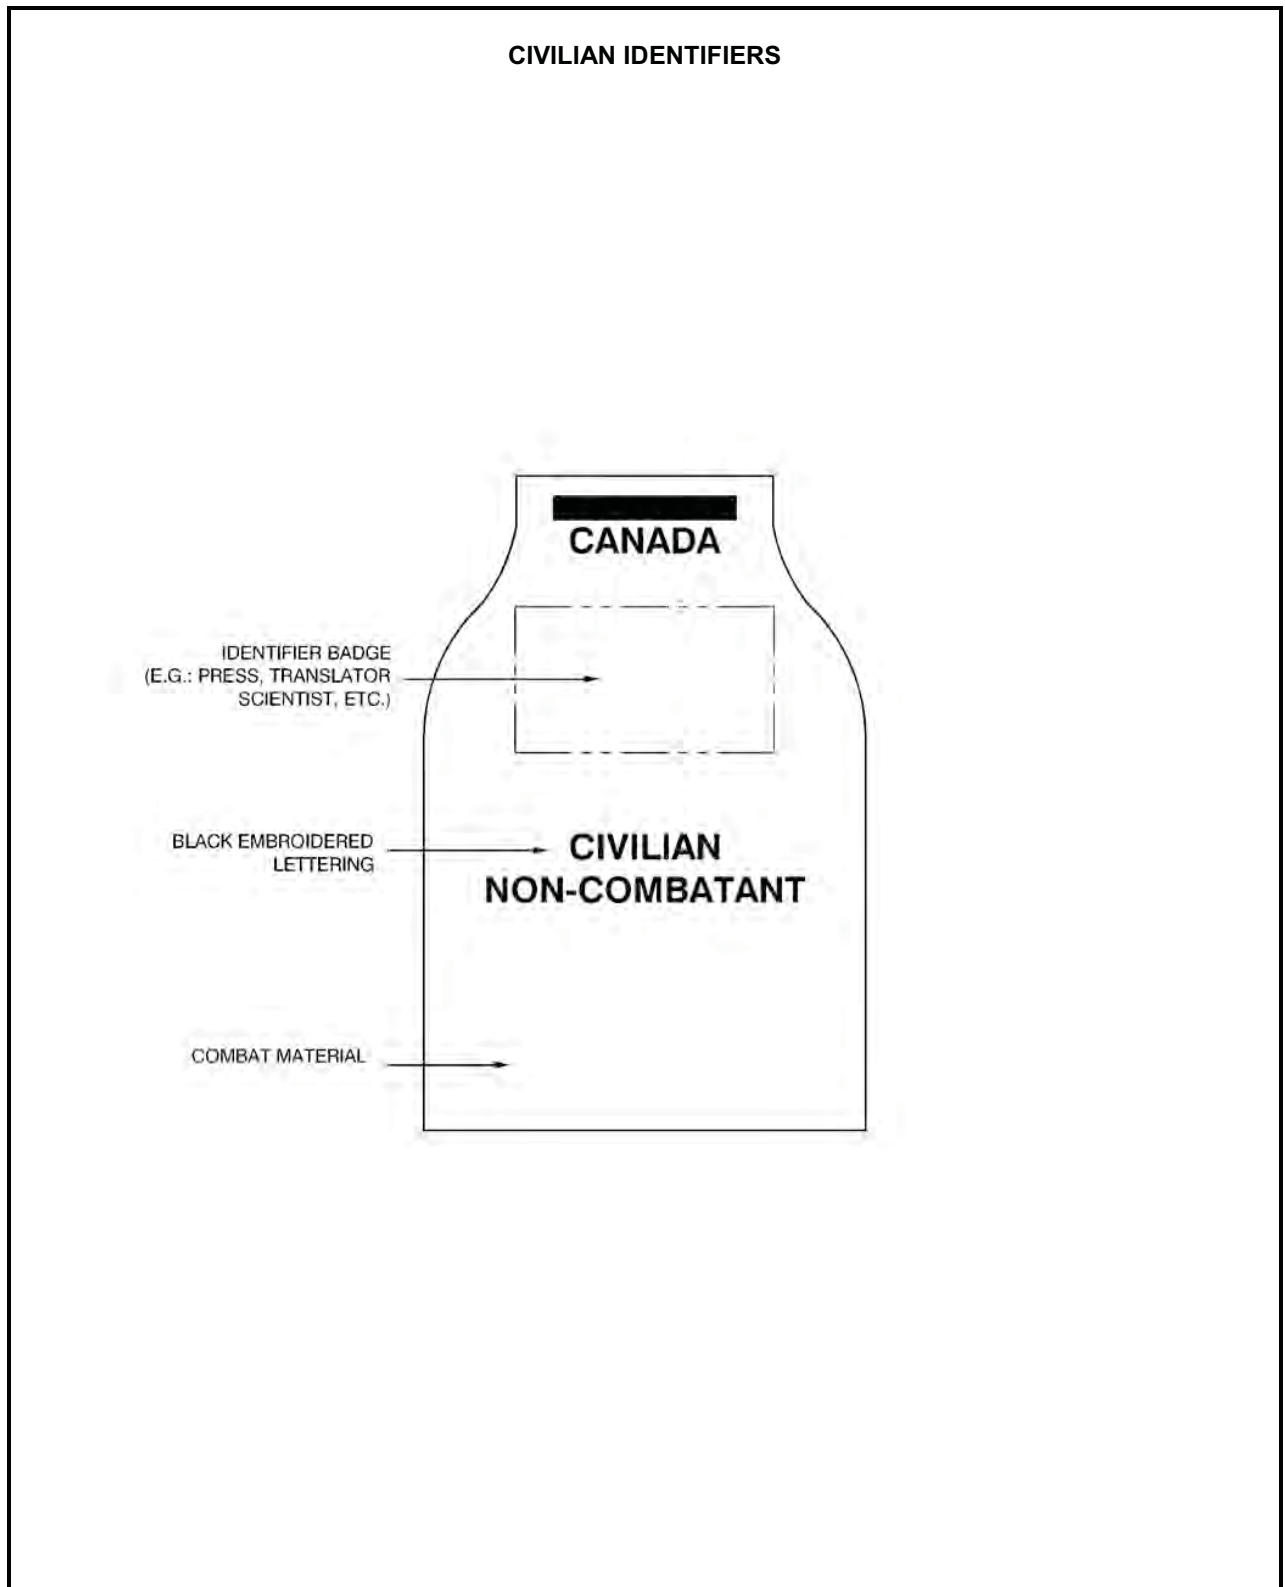

Figure 2-1-1 Civilian Armlet
- (1) as or with a CAF or Assistant CAF Attaché/Adviser; and
(2) when serving with the military forces of other countries.
41. **Civilians.** Civilians employed by DND, such as defence scientists and translators, or those accredited to DND for special duties, such as news media representative, may be authorized to wear certain items of military uniforms during the period of specific assignment. They will be identified by wearing on the uniform an appropriately marked brassard or armband. See Figure 2-1-1. When CAF operational clothing is provided to civilians who accompany CAF units in operational or field conditions, issuing units must ensure that any badges, to which the civilian member is not entitled, are removed from the operational clothing. Such action will minimize the possibility that the individual will be mistaken for a member of the CAF.
58. **Persons who accompany the CAF.** An armband designating a civilian non-combatant shall be worn on the left arm of all persons accompanying the CAF. Examples of such persons are accredited war correspondents, scientific advisors, and/or supply contractors. See Figure 2-1-1